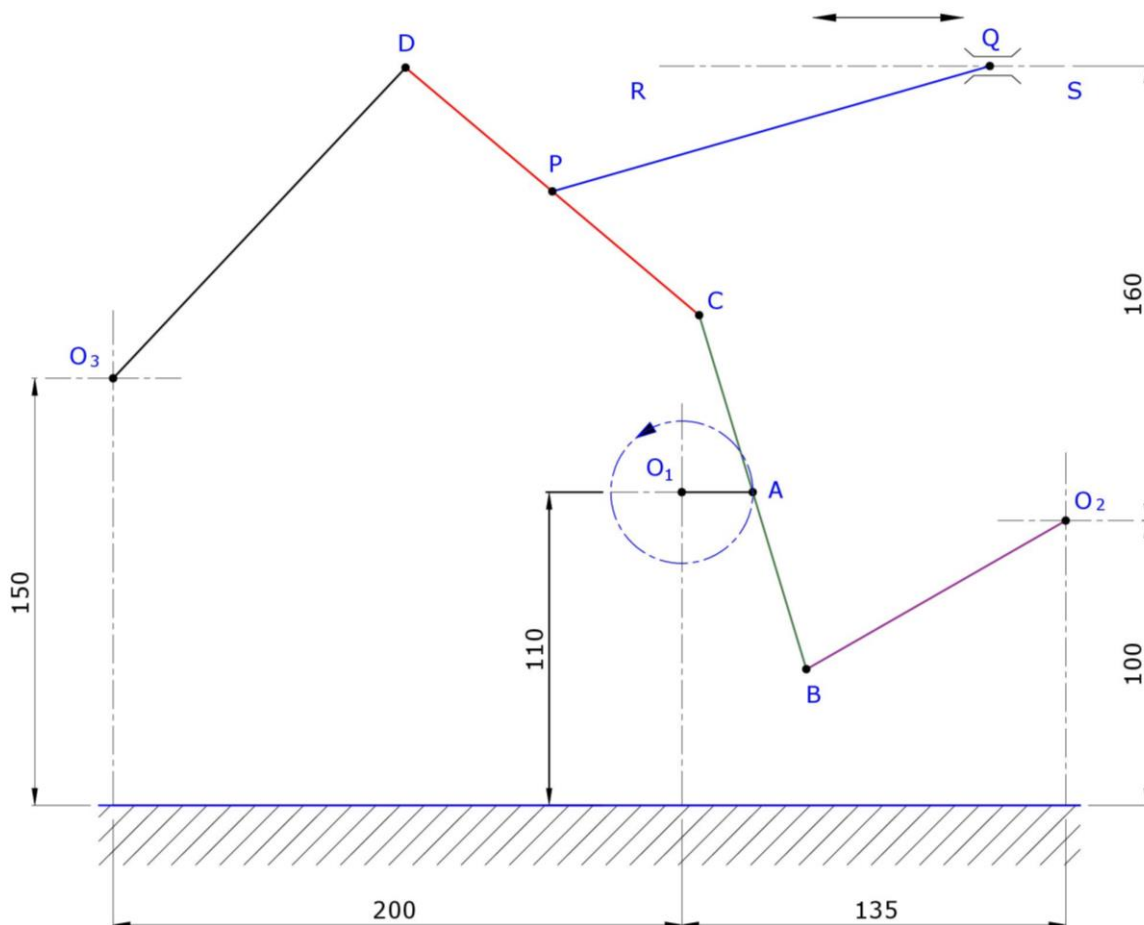

Figure 3
In the mechanism shown in Figure 3,  $O_1$ ,  $O_2$  and  $O_3$  are fixed points.
| a) copy Figure 3;   | (2) |